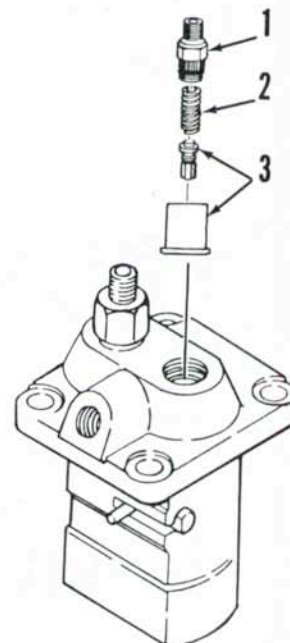

Fig. 115—Exploded view of delivery valve assembly typical of 1100, 1110, 1200 and 1300 models. Other models are similar.
To check pump timing, shut off fuel supply to pump. Disconnect injector line from front fitting (delivery valve holder) on pump. Remove delivery valve holder, delivery valve and spring (Fig. 115). Reinstall delivery valve holder and tighten snugly.
To check pump timing, shut off fuel supply and disconnect No. 1 (front) injector line from delivery valve holder on pump. Remove the No. 1 delivery valve holder (1—Fig. 115), spring (2) and delivery valve piston (3). Reinstall delivery valve holder and tighten snugly.
To check pump timing, shut off fuel supply and disconnect No. 1 (front) injector line from delivery valve holder on pump. Remove No. 1 delivery valve holder (1—Fig. 115), spring (2) and delivery valve piston (3), then reinstall delivery valve holder and tighten snugly.